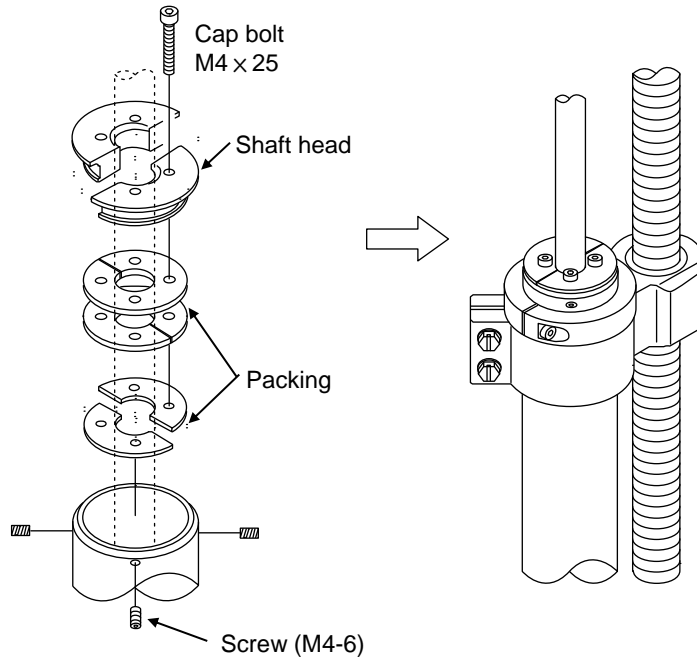

Fig.1
- Attach the shaft head to the cable of the Transducer with the Cap bolts (4 pcs of M4 x 25). The Cap bolts need to be tightened temporarily. (Refer to Fig. 1).